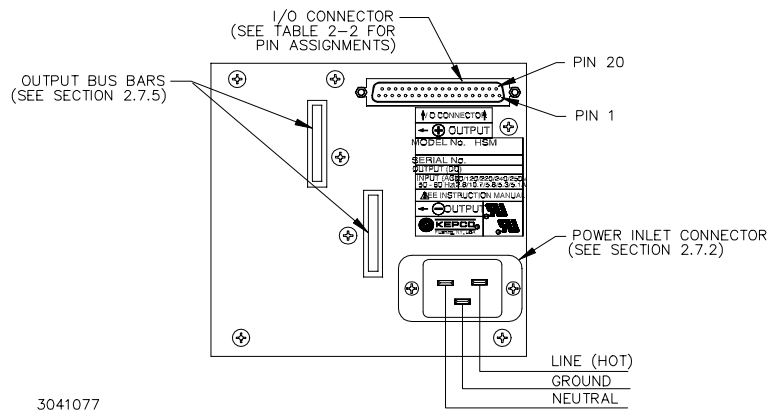

FIGURE 2-2. HSM SERIES REAR PANEL CONNECTIONS
b) **Rear Panel:** Refer to Figure 2-2 and Table 2-2.